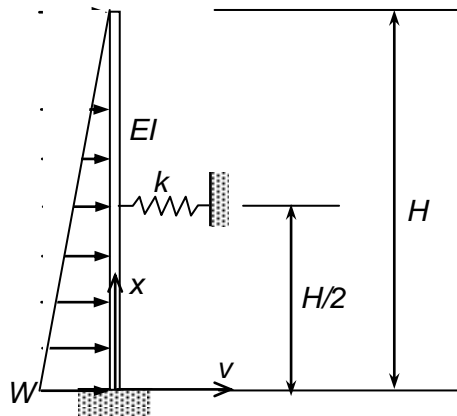

Figure 6
- (b) Figure 6 shows a cantilever column with height H subjected to a linearly distributed load from W at bottom end until 0 at the upper end. One linear spring with spring constant k is located at mid-height of the column. The following expression for lateral displacement field v has been suggested: